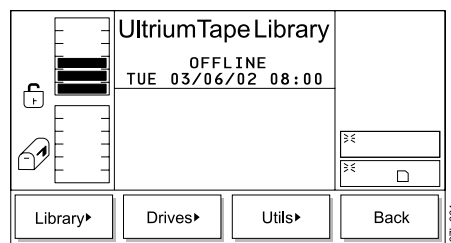

Figure 248. Setup Menu
2. Press the button below the **Setup** softkey. The Setup Menu displays (see Figure 248).